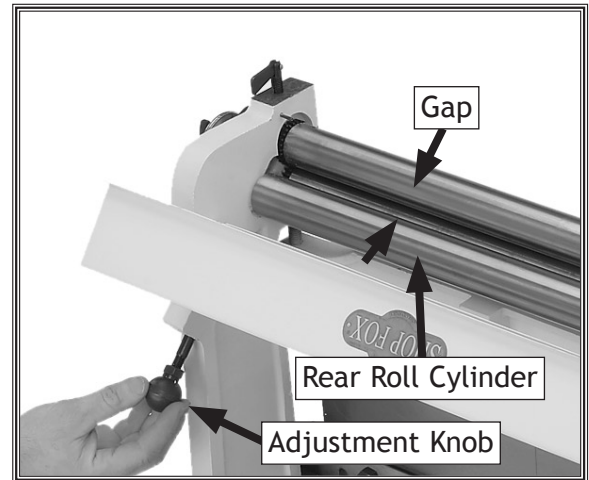

Figure 12. Adjusting rear roller gap.
2. Lower the rear roll cylinder by simultaneously loosening the slip roll adjustment knobs (see **Figure 12**). When complete you should have an even gap between the cylinders.